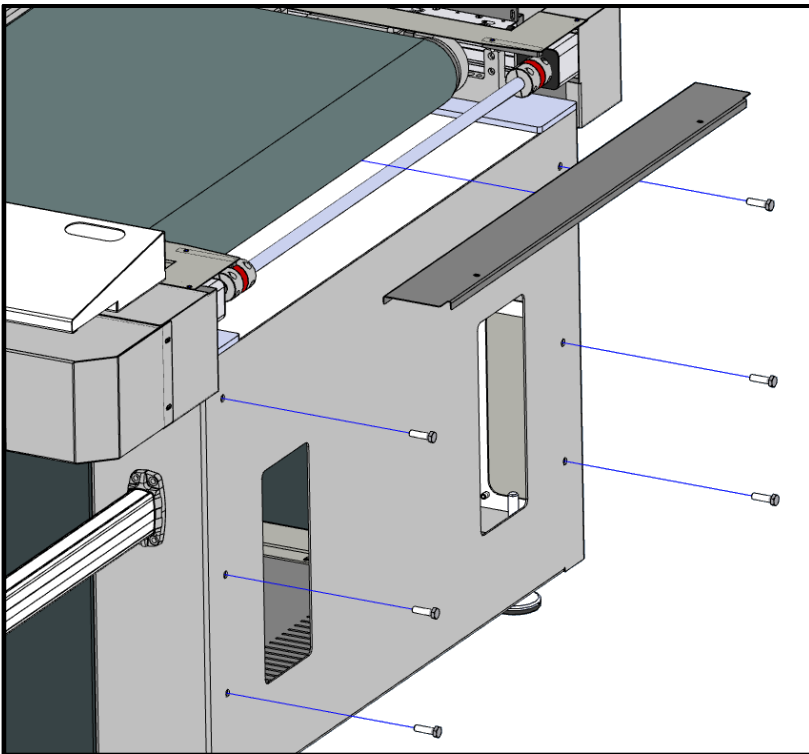

Figure 5-15
- Couple the loader with the machine by screwing and tightening the 6 screws removed previously (Figure 5-15).